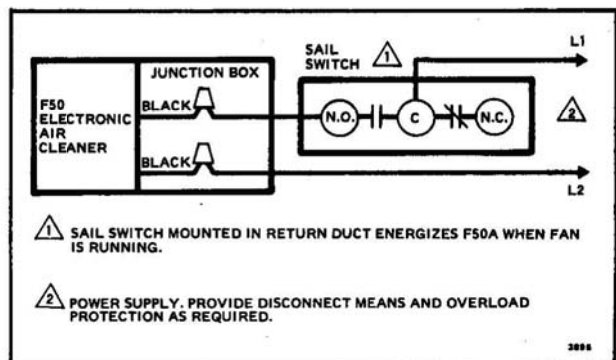

FIG. 24—F50A ELECTRONIC AIR CLEANER CONTROLLED BY A SAIL SWITCH.
2. If the system blower is driven by a 3-phase, variable speed, or a 2-speed motor, it is recommended that the air cleaner be controlled by a sail switch mounted in the return air duct. The air cleaner will be energized only when air is being circulated (Fig. 24).